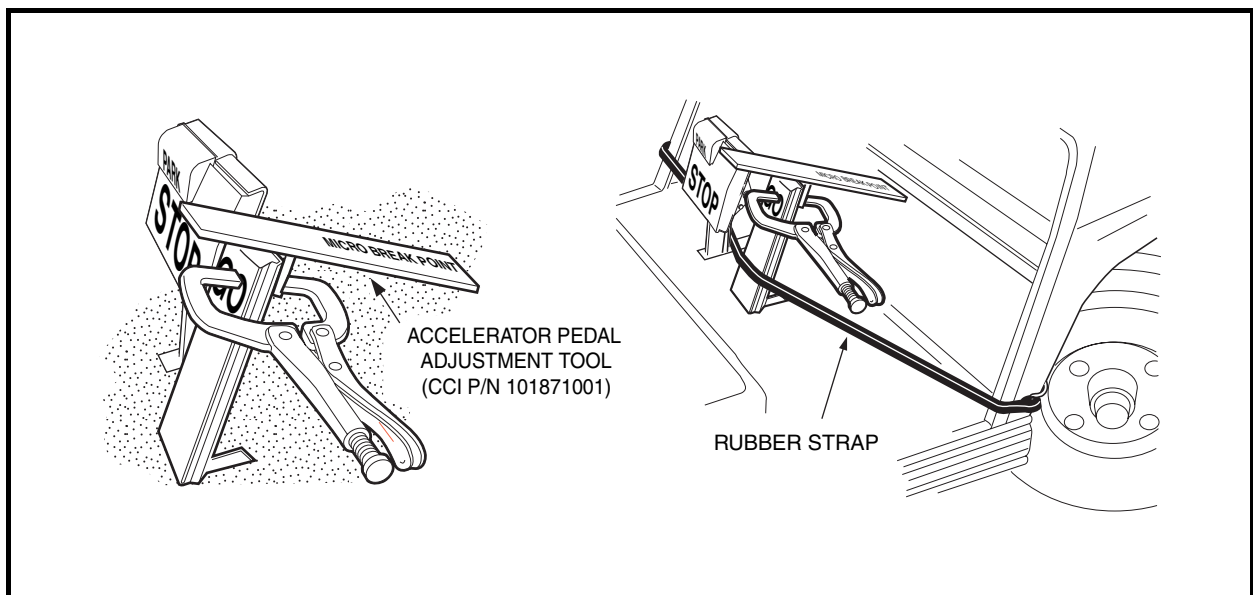

Figure 5-29 Accelerator Pedal Height Adjustment
- 5.2. Clamp the accelerator pedal adjustment tool (CCI P/N 101871001) to the accelerator pedal, with the end marked *accelerator pedal height* closest to the floorboard (**Figure 5-29, Page 5-19**). Press the accelerator pedal until the end of the tool rests against the floorboard; pedal height should be 5-5/8 inches (14.3 cm). Use a rubber strap to hold pedal in position against the floorboard and then tighten nut to 26 ft-lb (35.3 N·m).